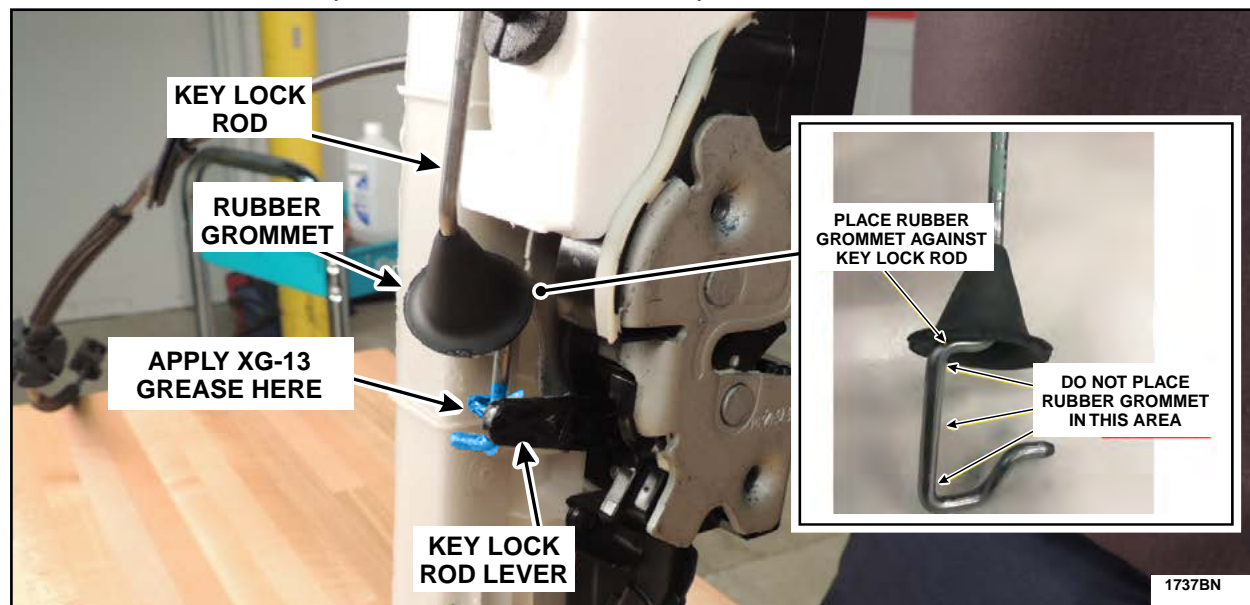

FIGURE 35
6. For driver side only, apply Motorcraft® XG-13 grease to the area where the key lock rod attaches to the key lock rod lever. See Figure 35.
7. For driver side only, install the rubber grommet onto the key lock rod over the key lock rod lever. The rubber grommet should be positioned as shown. The rubber grommet will sit sideways when installed properly. See Figure 35.